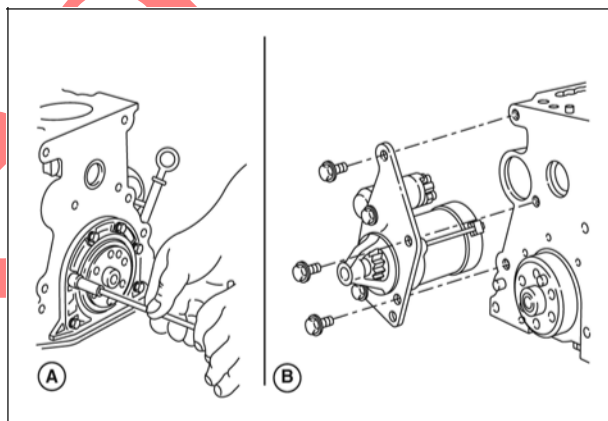

Figure 8
2. Install gasket and rear seal retainer (A, Figure 8). Torque screws to values listed in Section 14 - Engine Specifications.
3. Install starter motor (B) and torque screws to values listed in Section 14 - Engine Specifications.